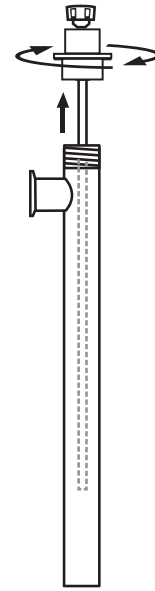

Figure 7
7. For stainless steel models (i.e. SP-SS Series, 9410-9413 & 9600- 9603), remove connection flange (P/N 8102) from inner/ outer tube assembly by turning clockwise (see Figure 7).